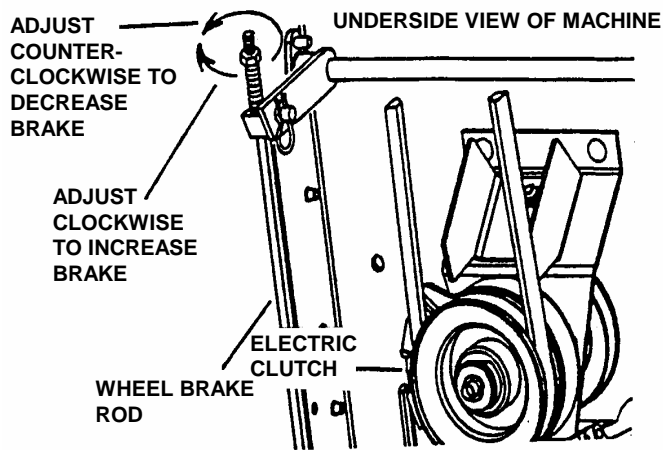

FIGURE 4.14
Before attempting any adjustments or repairs, STOP the engine, remove the key, remove the spark plug wire(s) from the spark plug(s) and secure wire(s) away from plug(s). Never use a cutting blade that shows signs of excessive wear or damage on the YARD CRUISER. Refer to Figure 4.14.
Adjust the wheel brake if wheels turn when parking brake is engaged. Adjust the wheel brake by turning wheel brake adjusting nut clockwise to increase braking action or counter clockwise to decrease braking action. See Figure 4.14.
6. Inspect condition of blade. Refer to Figure 4.14.